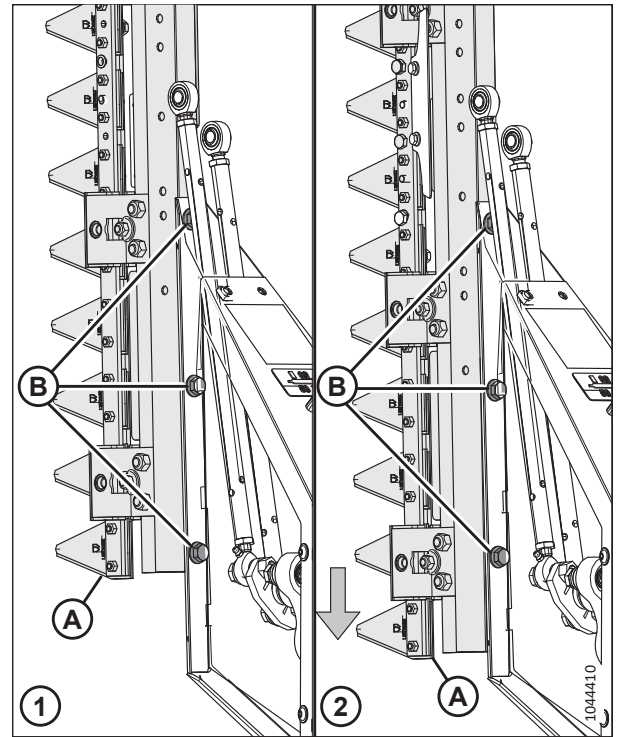

Figure 4.378: Adjusting Knife Position
13. Support knife assembly (A).
14. Remove bolts and washers (B). Clean any existing threadlocker from the bolts.
16. Reposition knife assembly (A) until the correct configuration holes line up with the holes on the frame. Refer to Figure 4.378, page 467.
17. Install bolts (B). Torque the bolts to 54 Nm (40 lbf-ft).